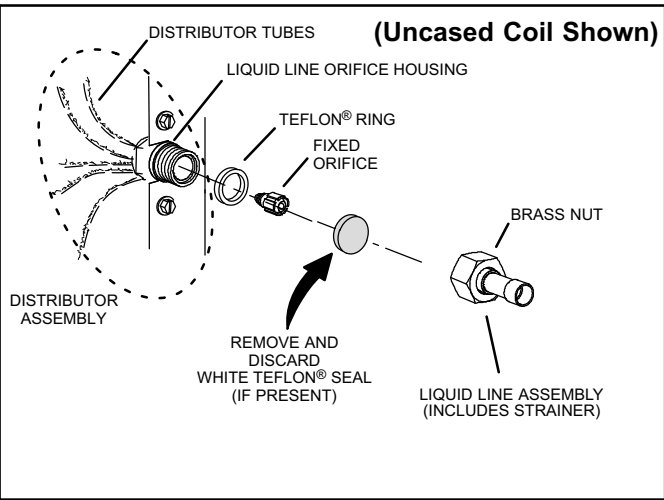

Figure 18. Typical Fixed Orifice Removal
4. Remove and discard fixed orifice, valve stem assembly if present and Teflon® ring as illustrated in figure 18.